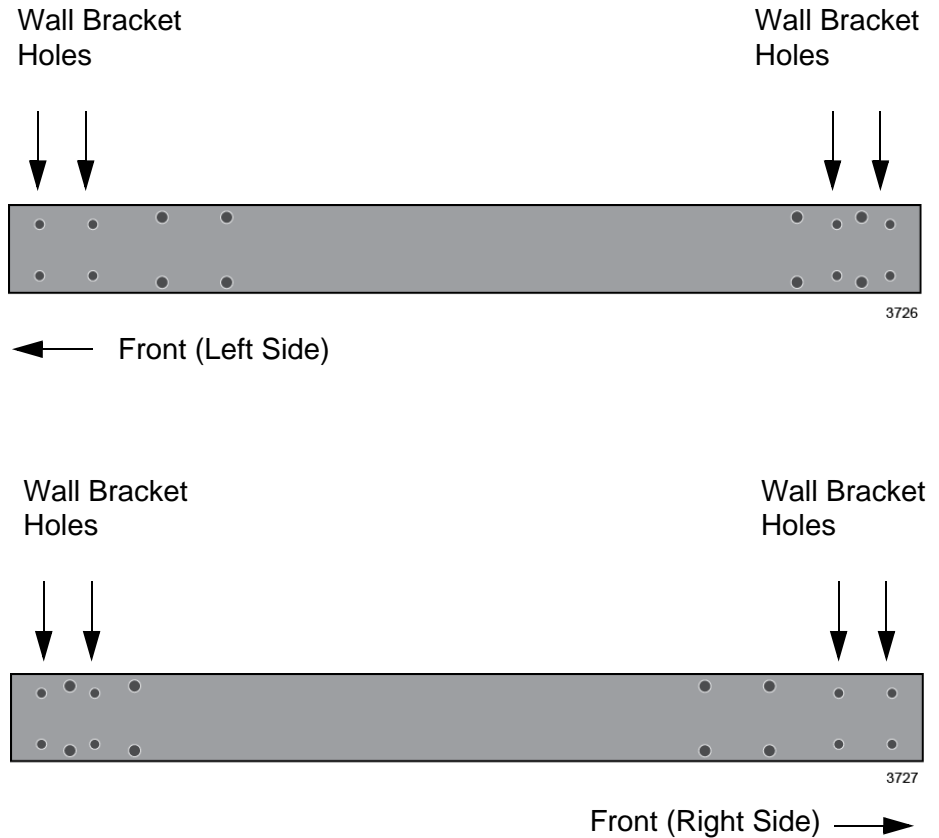

Figure 49. Mounting Holes
RKMT-SL01 Rack Mounting Kit. For this procedure, you need to use the holes for the brackets. The holes are identified in Figure 49.
2. Install the four brackets with sixteen screws that come with the switch to the sides of the unit, as shown in Figure 48 on page 104 and Figure 49 on page 105.